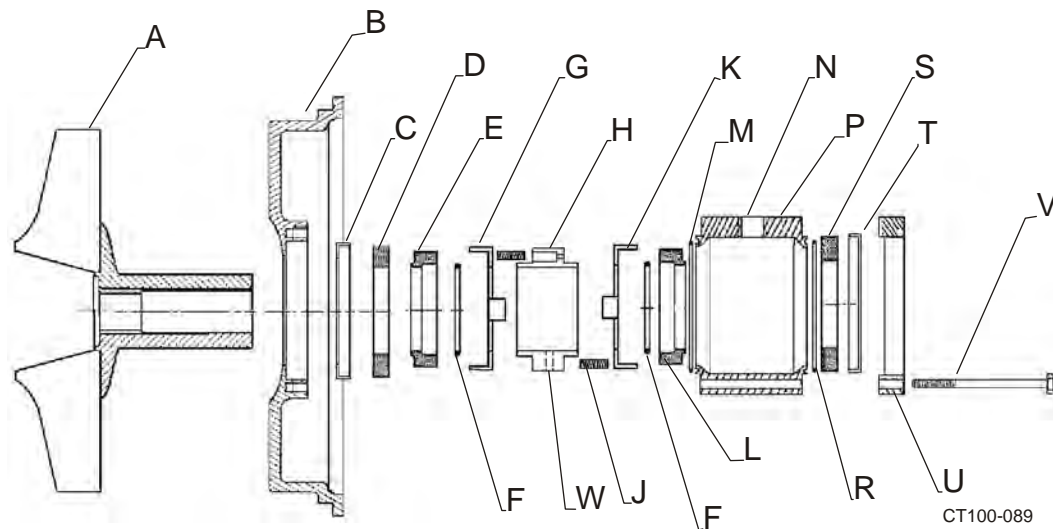
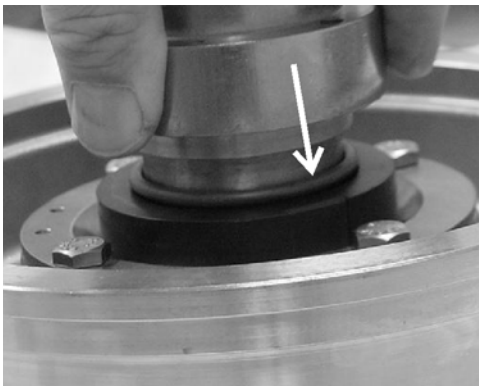

Figure 40 - Type 4 Seal Components
Figure 42 - Installing O-ring Using Spring Retainer
10. Remove the stationary seal and L-gasket from the backplate. (Figure 40, items D and C)
2. Install the L-gasket in the backplate (Figure 40, items B and C).
3. Install the L-gasket in the seat retainer (Figure 40, item T).
4. Install the stationary seals (Figure 40, item S) in the L-gaskets.
7. Place the o-ring (Figure 40, item F) on the shaft and use the spring retainer to push the o-ring into the rotary seal (Figure 42).
8. Place the washer (Figure 40, item G) over the rotary seal with tabs in the outside diameter notches.
9. Place three springs (Figure 40, item J) in one side of the spring retainer (item H). Hold them in place with silicone sealer, and slide the spring retainer (with the springs down) onto the impeller shaft the against the washer.
10. Place the remaining three (3) springs in the spring retainer.
11. Slide the washer and o-ring (Figure 40, items K and F) onto the shaft against the spring retainer.
13. Remove the 1/4 NPT plug from the center port on the flush housing (Figure 40, item N).
14. Install an o-ring (Figure 40, items M and R) in both ends of the housing.
15. Install the L-gasket in the seat retainer (Figure 40, items T and U).
16. Install the stationary seal (Figure 40, item S) in the L-gasket.
18. With flush ports facing away from the backplate, place the seat retainer (Figure 40, item U) on the housing.
19. Tighten the seat retainer in place with four (4) hex screws (Figure 40, item V).
24. Tighten the set screws in the spring retainer through the 1/4" NPT center port in the flush housing (Figure 40, item N).